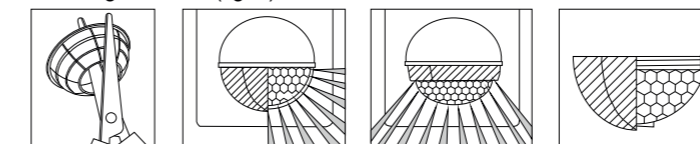

Fig. 9
- 3.4.3** Push the lens shield into the circumferential slot of the sensor head. The position can be adjusted by sliding it around the slot. Please refer to figure below (fig. 9).